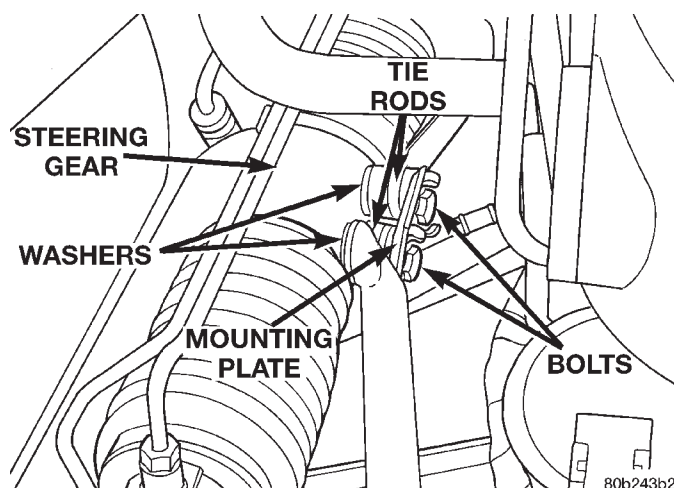

Fig. 24 Tie Rod To Steering Gear Attaching Bolts
(12) Remove the bolts, mounting plate and washers (Fig. 24) attaching the tie rods to the steering gear. Lay the tie rods on top of the transaxle bell housing.